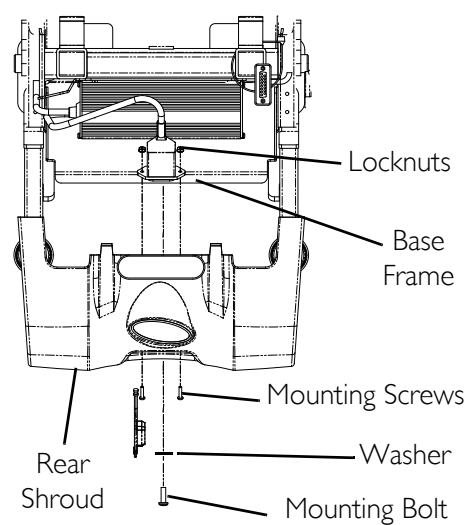

FIGURE 9.1 Removing/Installing the Shrouds
NOTE: For this procedure, refer to FIGURE 9.1 on page 92.
NOTE: Shorter mounting screws are used to secure the top rear of side shrouds (Detail "A" of FIGURE 9.1).
- Shroud Plate - Remove the two mounting screws and washers securing the shroud plate to the side frame assembly (Detail "A" of FIGURE 9.1) and remove shroud plate from side frame.
- Front Shroud - Remove the two mounting screws that secure the front shroud to the base frame (Detail "B" of FIGURE 9.1) and remove front shroud from the base frame.
- i. Open rear shroud by turning the knob 90° until detent catch is felt, then slide rear shroud toward the rear casters and lift top edge away from the rear of the wheelchair frame (Detail "C" of FIGURE 9.1).
- ii. Remove the mounting bolt and washer securing the rear shroud to the base frame and remove rear shroud from base frame (Detail "C" of FIGURE 9.1).